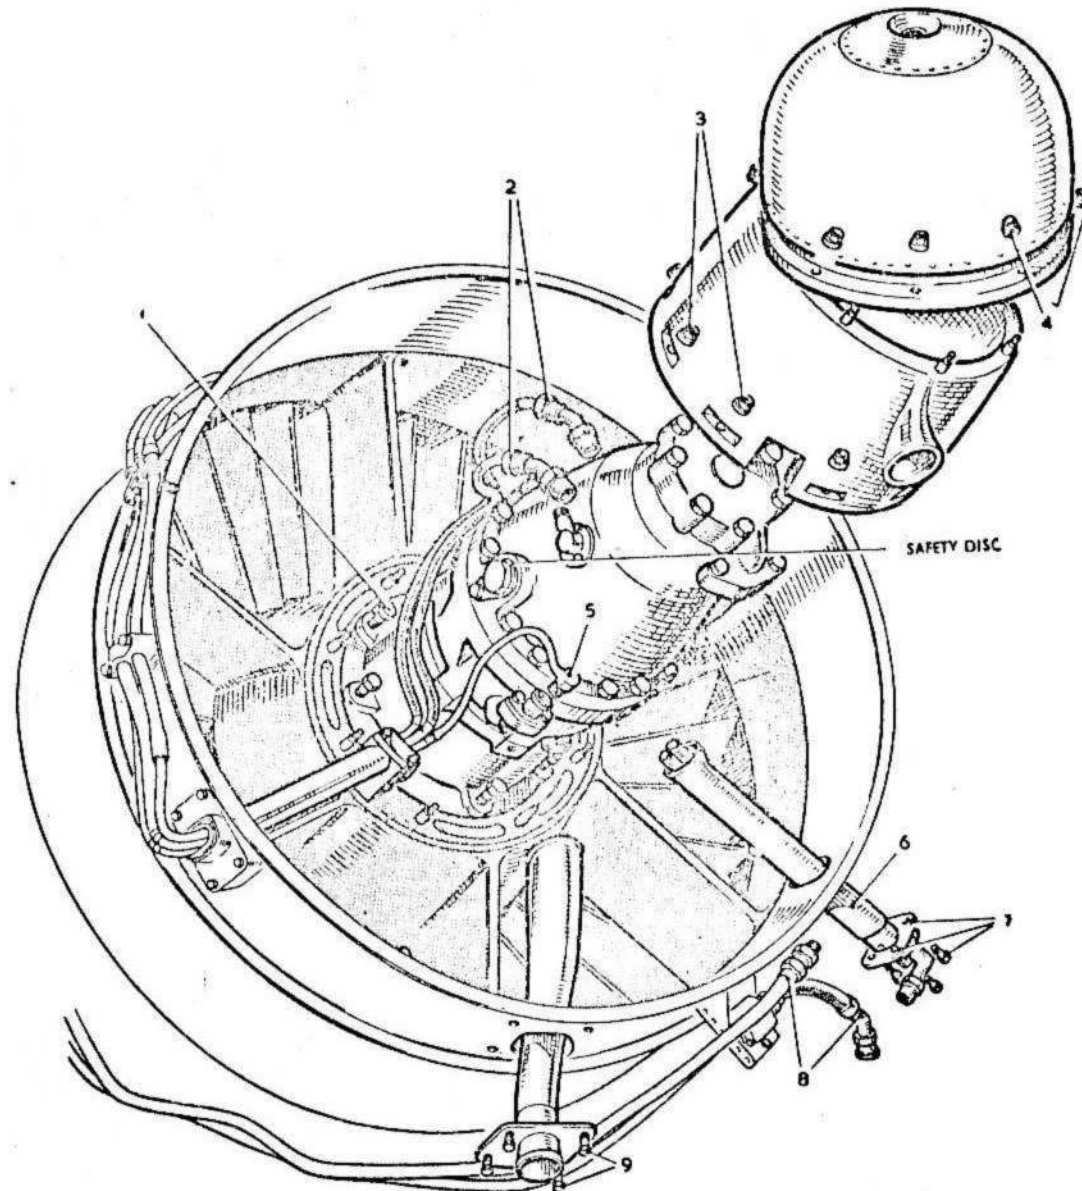

Fig. 10. Engine starter removal
(43) Disconnect and remove the engine drain pipes.
(44) Remove the engine starter (fig. 10).
(45) Check the E.C.U. with the E.C.U. checking list.
#### Engine starter (fig. 10)